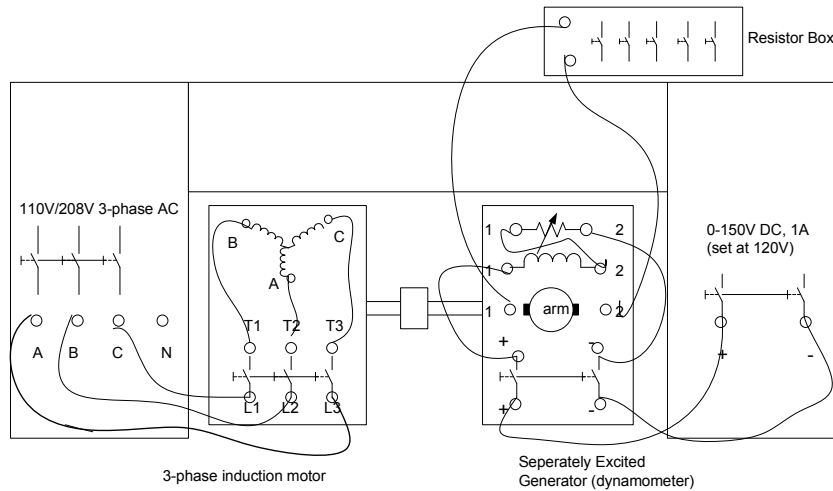

Figure 2. Loaded motor
11. Connect a 3-phase induction motor to a dynamometer on a Hamden trainer as shown in Figure 2. The power should be off. Set the DC field voltage to 120 volts and turn the field rheostat all the way off. Turn off all switches on the resistor box. Call instructor to verify the connections.